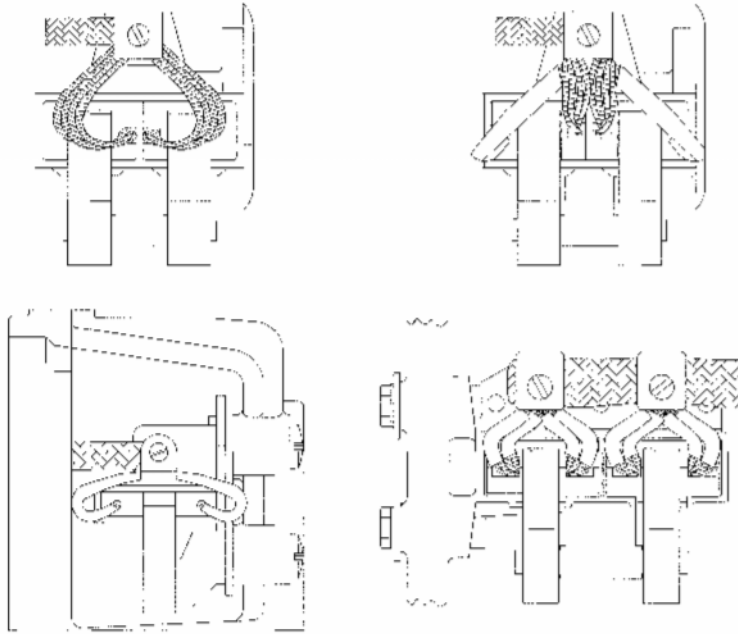

Figure 10 - Brush Lead Placement After Installation
- (6) Be sure the brush springs are properly in position and away from the anti-drive end end bell after brush insulation. (See Figure 10)
- (8) Be sure the brush springs are properly in position and away from the anti-drive end end bell after brush insulation. (Ref Figure 10)